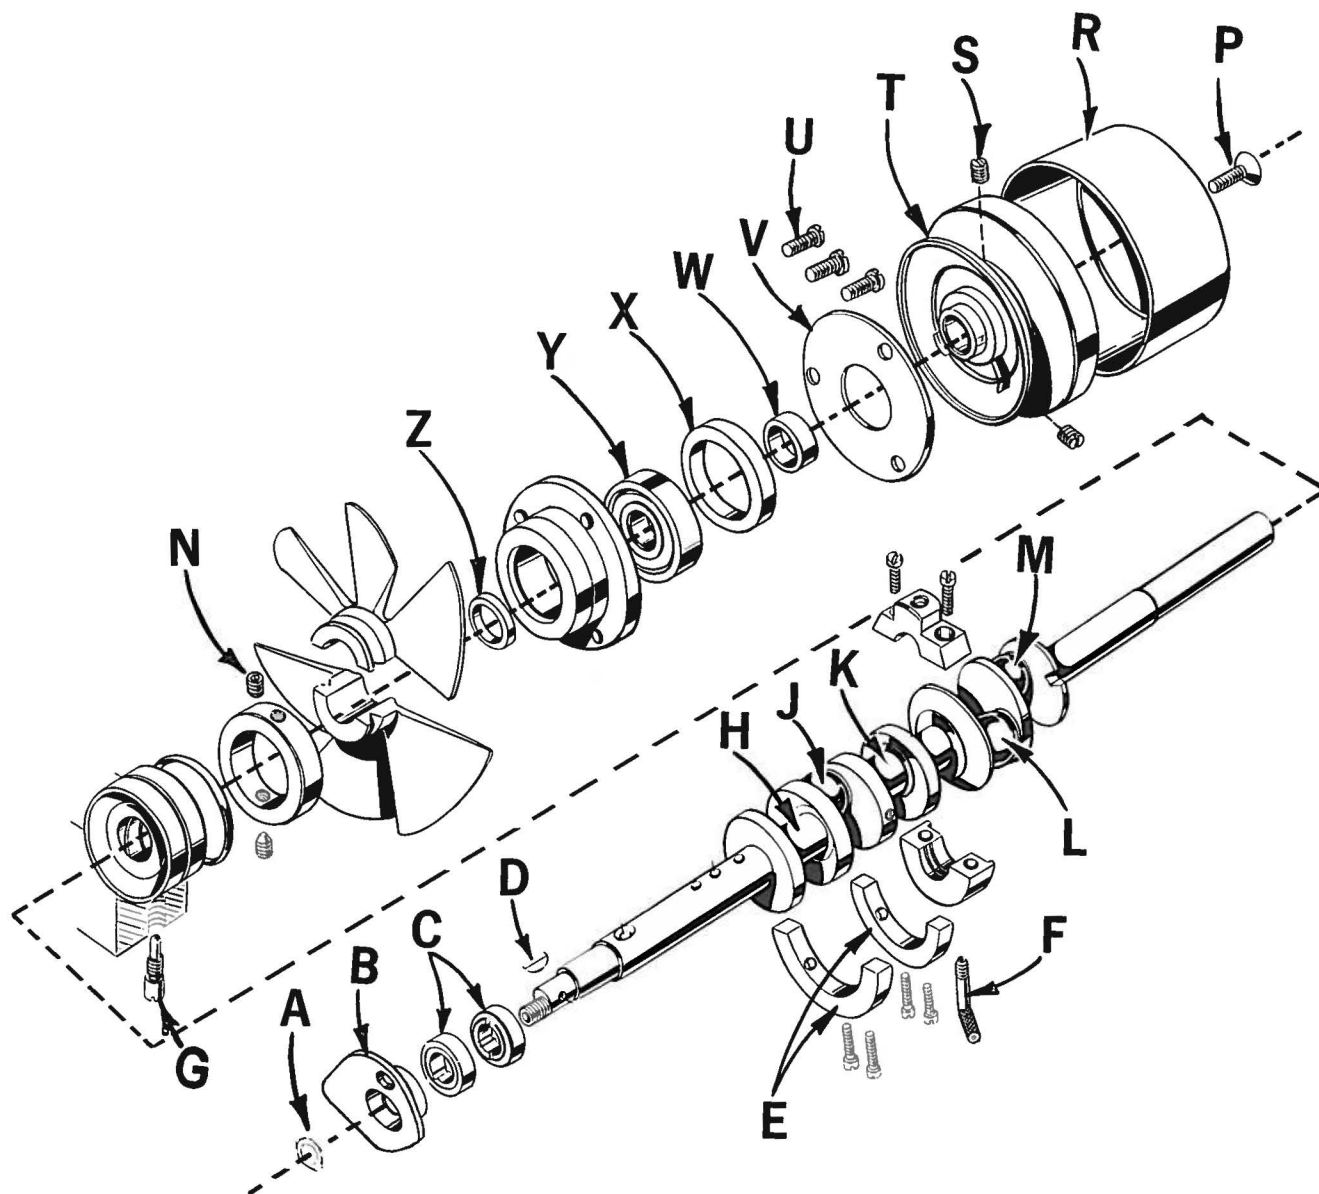
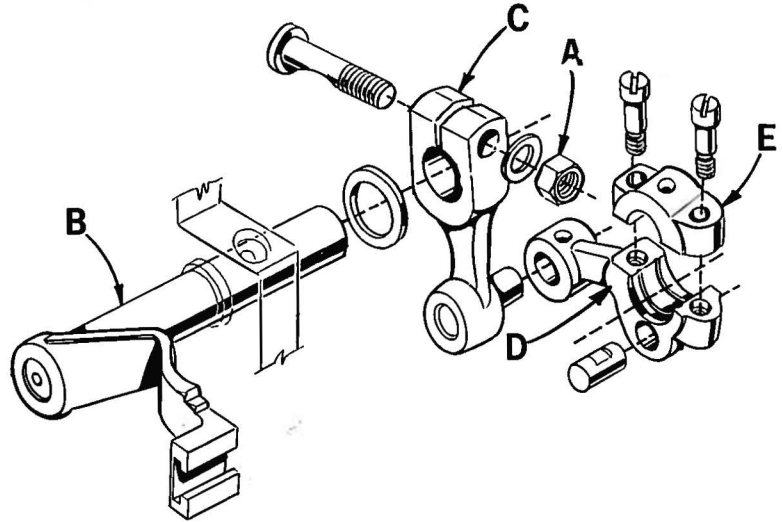

Fig. 22
Fig. 23
3. Remove nut (A, Fig. 22) 401 looper thread take-up (B) and eccentrics (C).
14. Loosen clamp nut (A, Fig. 23) which holds the upper knife driving arm (B). Access to clamp nut is through top cover. Draw driving arm to the left until upper knife driving lever (C) and connecting rod (D) drop, allowing removal of bearing cap (E). This is at bearing point (K, Fig. 22) on crankshaft. Observe same precautions when reassembling cap as described in paragraph 7.
15. Loosen two screws (N) in fan collar; remove both halves of cooling fan.
16. Remove screw (P); take off pulley cap (R).
17. Loosen two screws (S); remove pulley (T).
18. Remove three screws (U); take off bearing retaining plate (V): also, spacer collars (W) and (X) may be removed at this time.
20. If necessary to replace ball bearing (Y), it can be pressed off shaft on an arbor press. In replacing the bearing it must be pressed on carefully until it seats against ground thrust washer (Z).